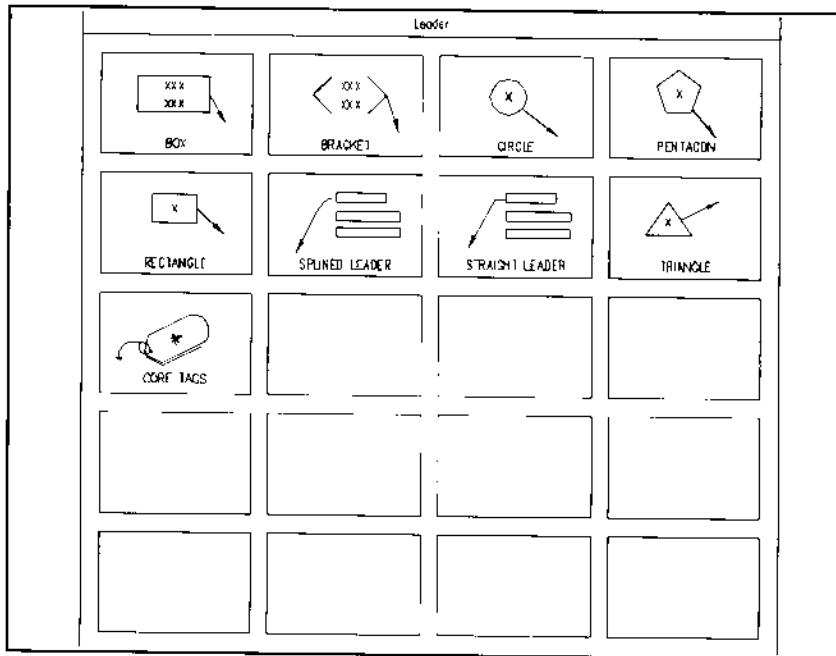
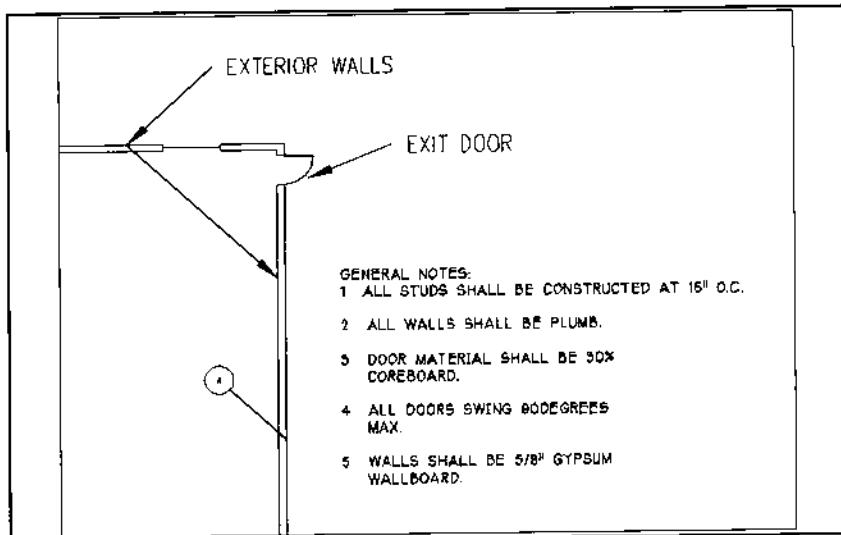
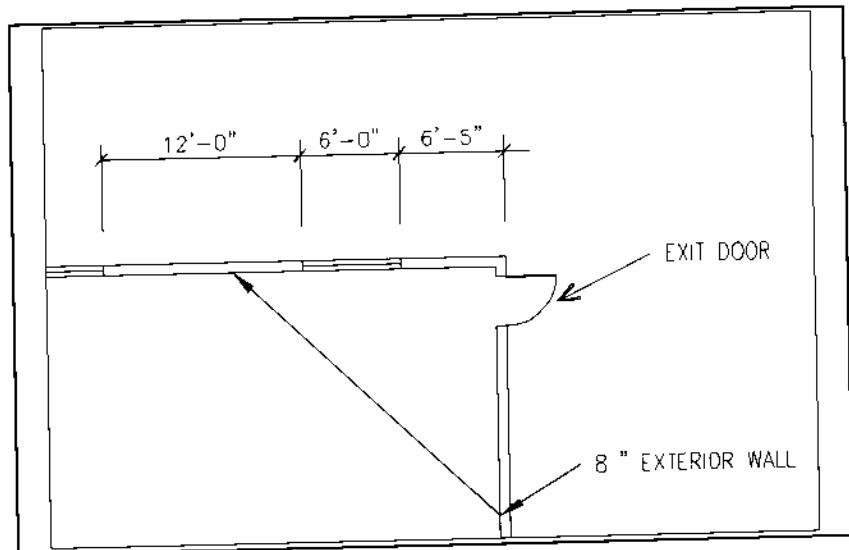

Figure 24.
Figure 25.
Figure 28.
3. Select Straight Leader directly from this menu, or open the Leader icon menu shown in Figure 24 and double click the icon. Pick a point near the exit door, as shown in Figure 25.
4. The command automatically toggles ortho mode on to maintain a vertical leader alignment position. Press F8 to toggle ortho off, and place the leadered text as shown in Figure 25 with the label "EXIT DOOR."
- > Pick leader start point: [select point near door as shown in Figure 25]
next point on your screen. Continue picking “Arrow” from the side screen for each sequential leadered arrow segment, then press enter to end the command. The example shown in Figure 25 is labeled EXTERIOR WALLS.
2. The note labeled “EXIT DOOR” shown previously in Figure 25 with arrow type ARROW is shown in Figure 28 with the arrow type changed to ASG-AR10.
1. The HSLASH dimension arrow is shown in Figure 28 as a standard architectural dimensioning tick.